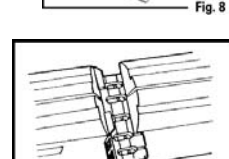

Fig. 9
- Place the pellet clip into the gun as shown in figure 9, making sure to line up one of the pellet chambers with the barrel chamber. IMPORTANT: If the pellet clip is not lined up properly, you will not be able to push the bolt forward.